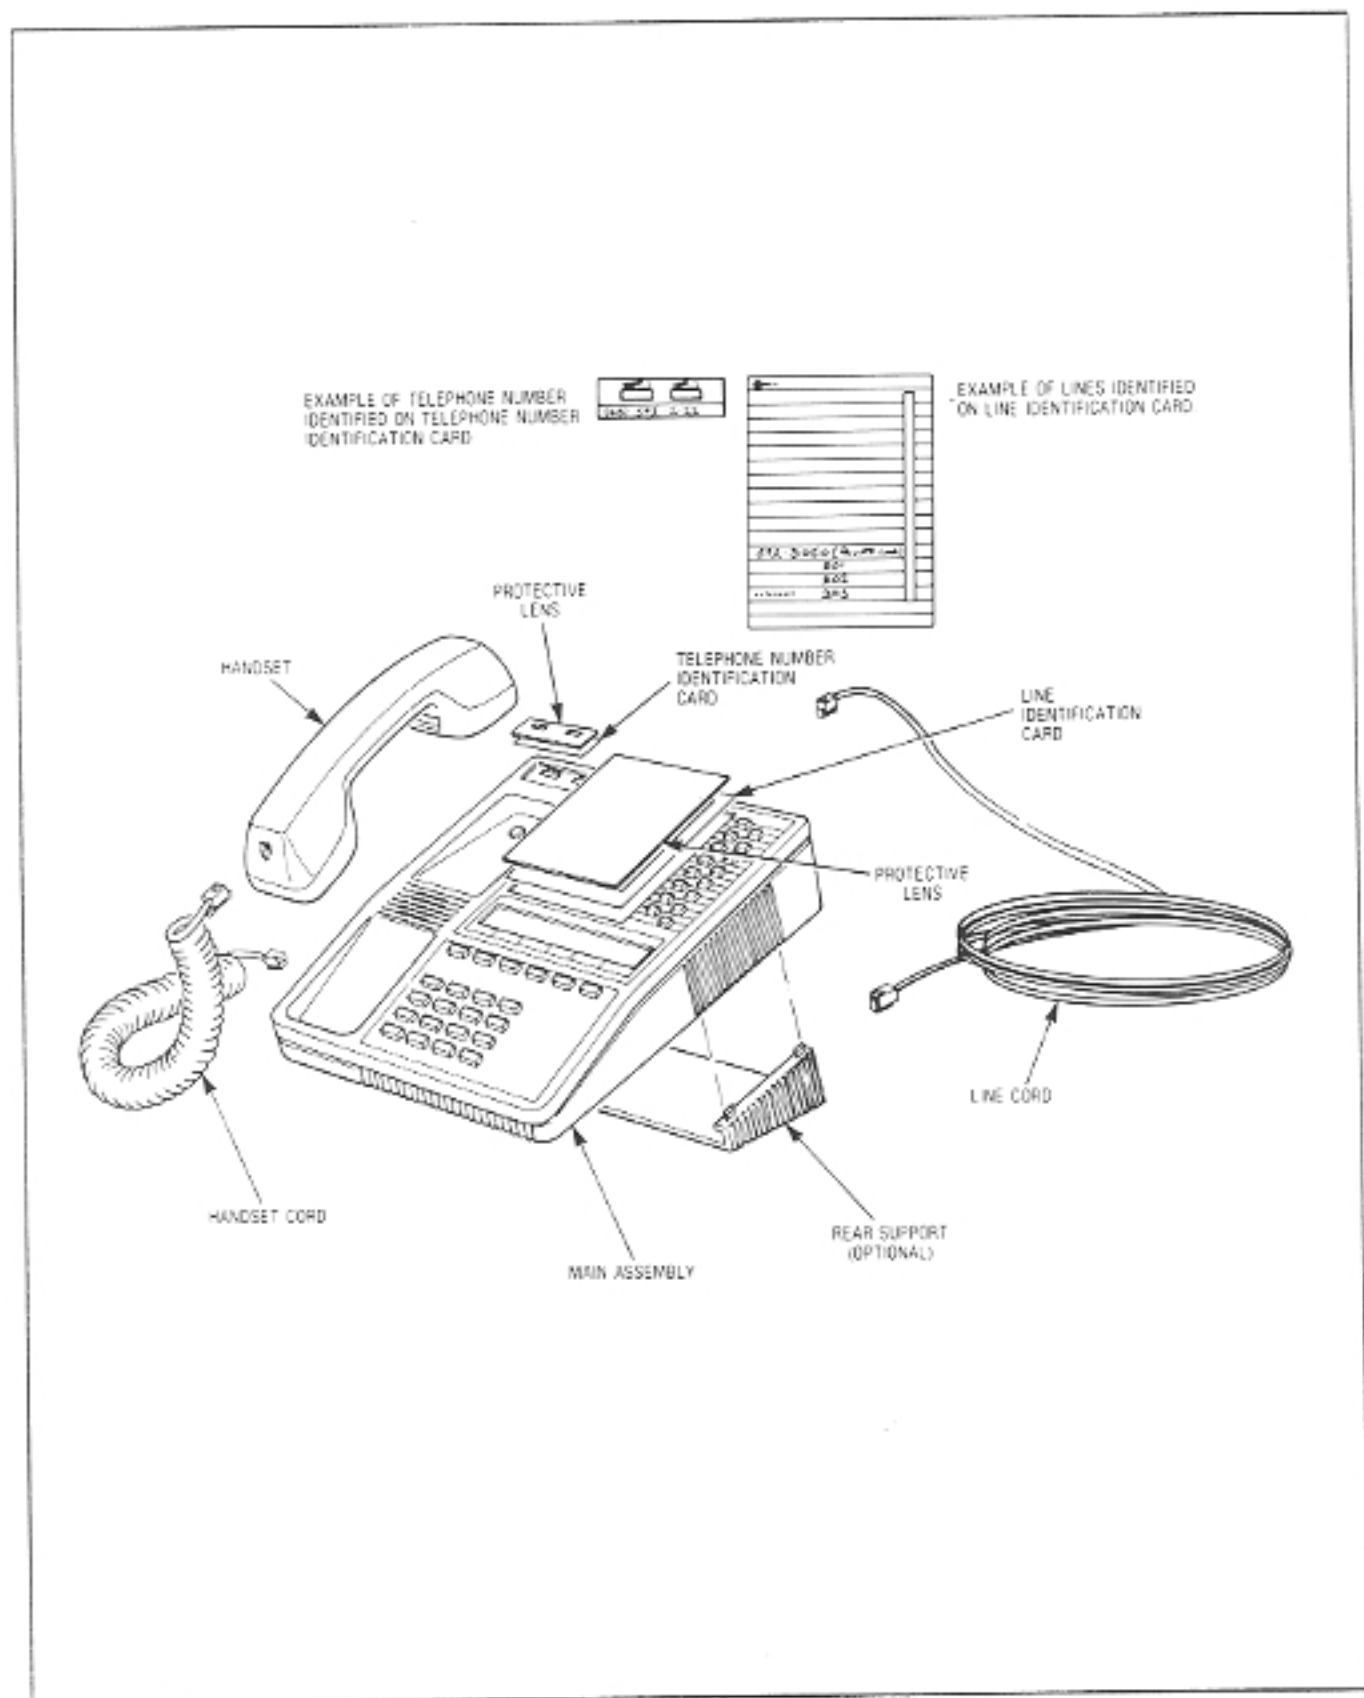

Figure 5-1 SUPERSET 4 Assembly
5.01 Refer to Figure 5-1. Assemble the rear support to the SUPERSET (if required) by engaging the support mounting lugs in the